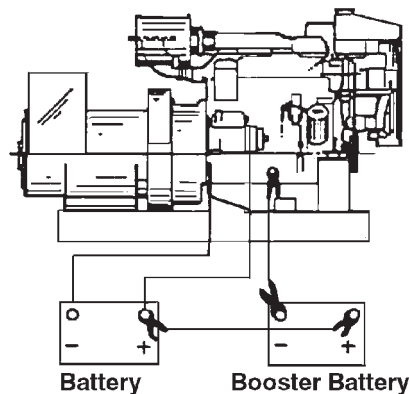

Figure 29: Booster Battery Connections
4. Then, connect negative (-) terminal of booster battery to ground on the engine block (see Figure 29).